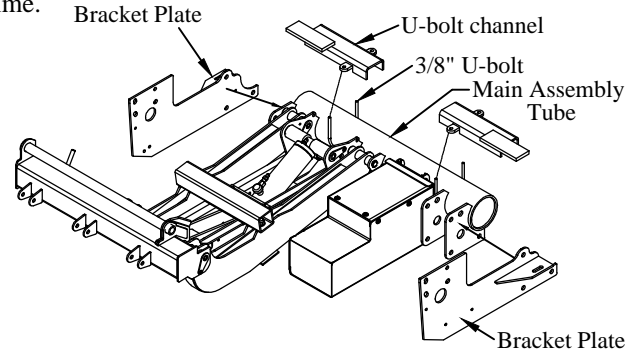

Figure 7: Bracket plate locations.
- 8. Install** the bracket plates on the main assembly using six (6) 5/8" x 1-1/4" bolts, lock washers, and lock nuts. Bolt head and lock washer should be on the outside (Figure 7).
- 9. Install** the U-bolt channel assemblies on the main assembly tube using the 3/8" U-bolts, flat washers, lock washers, and nuts (Figure 7). Do not tighten at this time.